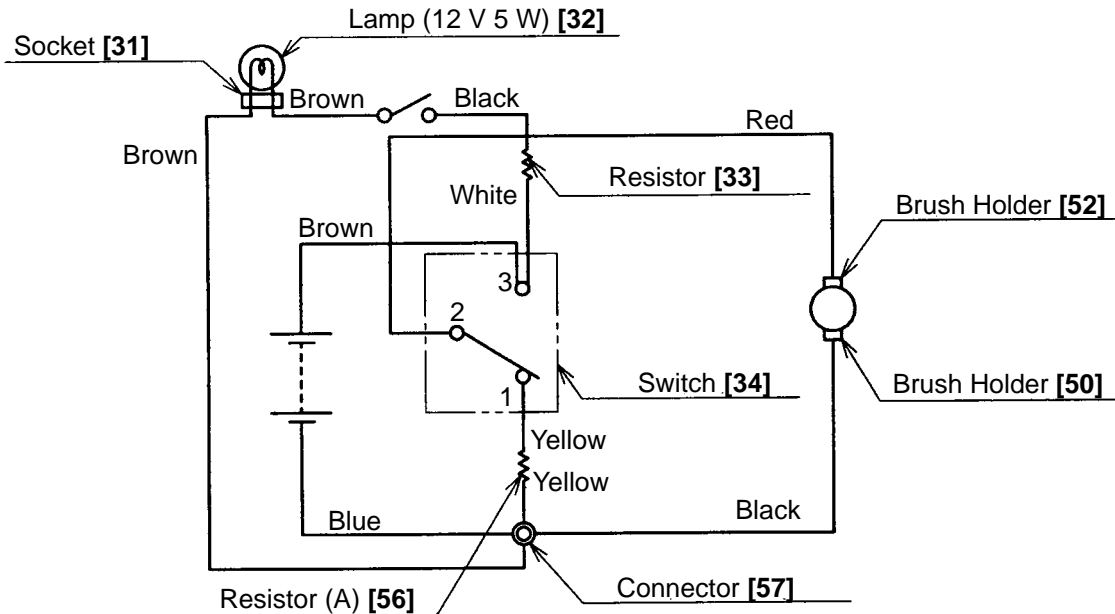

Fig. 4
(7) Wiring diagram (See Fig. 4.)